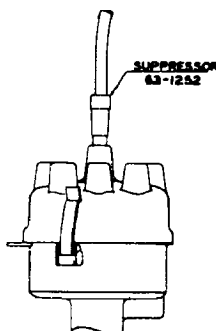

Fig. 5.
2. Install suppressor, No. 63-1252, in the center hole of the distributor cap. Place high tension lead in the top of suppressor. Be sure the suppressor and the lead are fastened securely. (Fig. 5.)